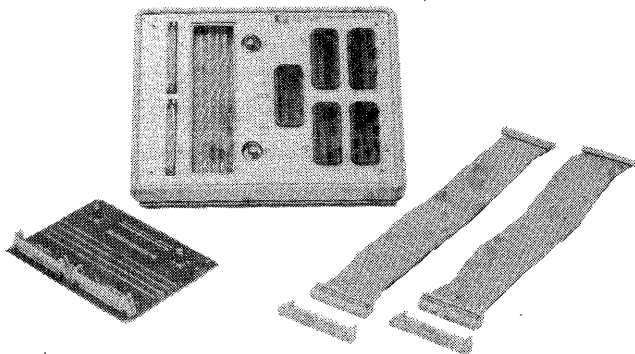

Figure 1. Model 10277 General Purpose Probe Interface
2. HP General Purpose Probe Interfaces, Models 10277A, B, and C (figure 1), provide a convenient method of connecting HP Logic Analyzers to digital systems. Connection to the system is through two 40-pin connectors. An interconnecting board in the interface allows you to define which of the system signals are supplied to the analyzer through wire-wrap terminals. In addition, the interconnecting board provides space for active circuits to allow preprocessing of signals before being clocked to the Logic Analyzers. Refer to table 1 for complete specifications and instrument compatibility for the three interfaces.